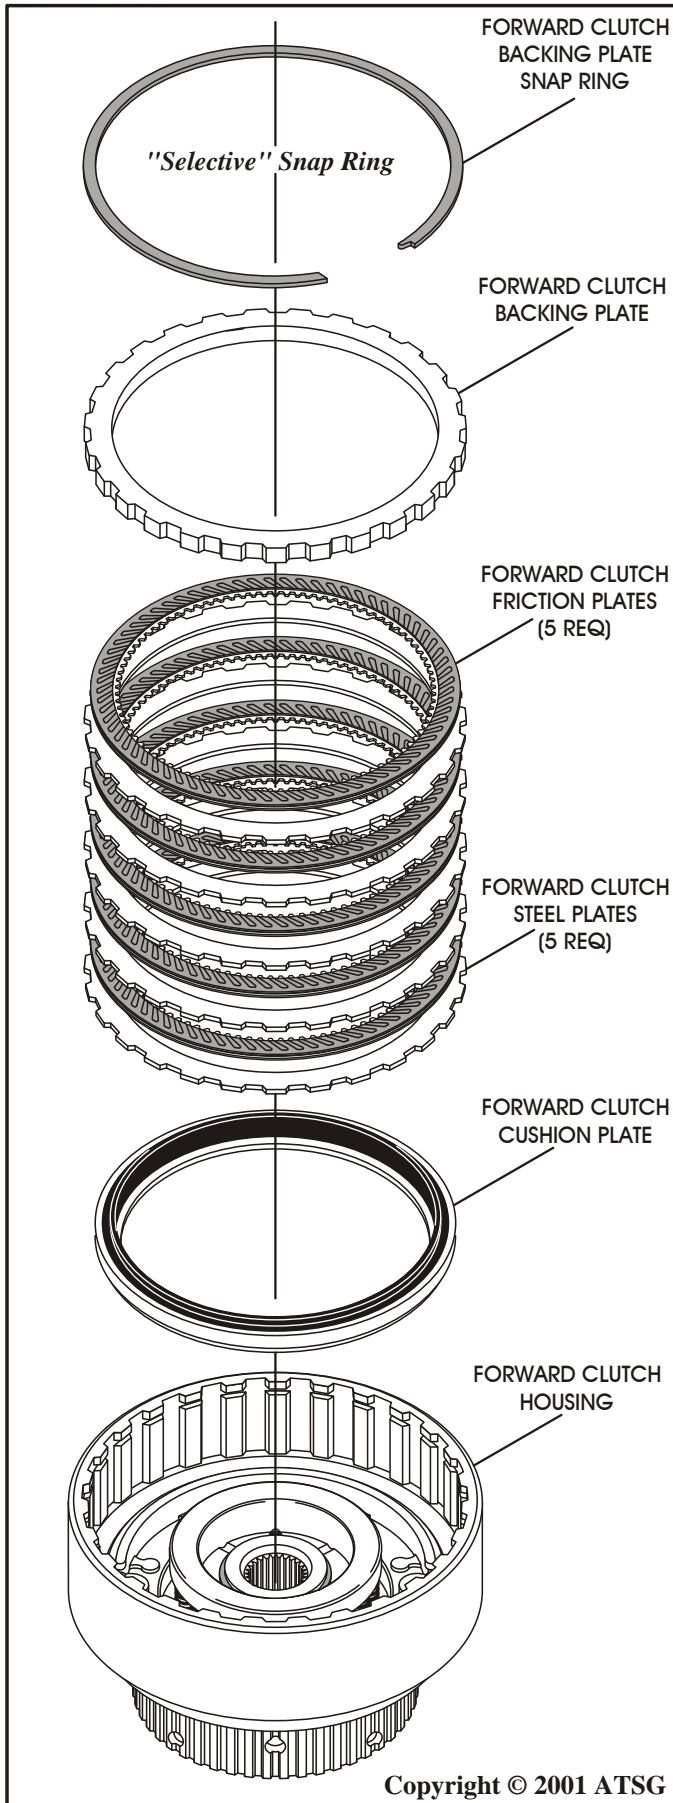

Figure 88
13. Install the forward clutch cushion plate on top of the piston, as shown in Figure 88.
14. Install the forward clutch plates beginning with a steel plate and alternating with friction plates, until you have installed 5 of each, as shown in Figure 88.
15. Install forward clutch backing plate, as shown in Figure 88.
16. Install forward clutch backing plate snap ring, as shown in Figure 88 and ensure that it is fully seated in the groove.